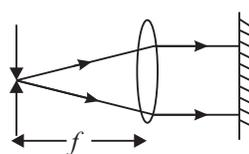

Fig. 14.4
- (viii) If the object pin is placed at the focus of the lens, rays from any point of it will emerge out as parallel beam (Fig. 14.4). Hence if the lens is backed by a plane mirror the rays will retrace their path and hence the real and inverted image of the object pin will be formed at the same position. Thus  $f$  can be measured.